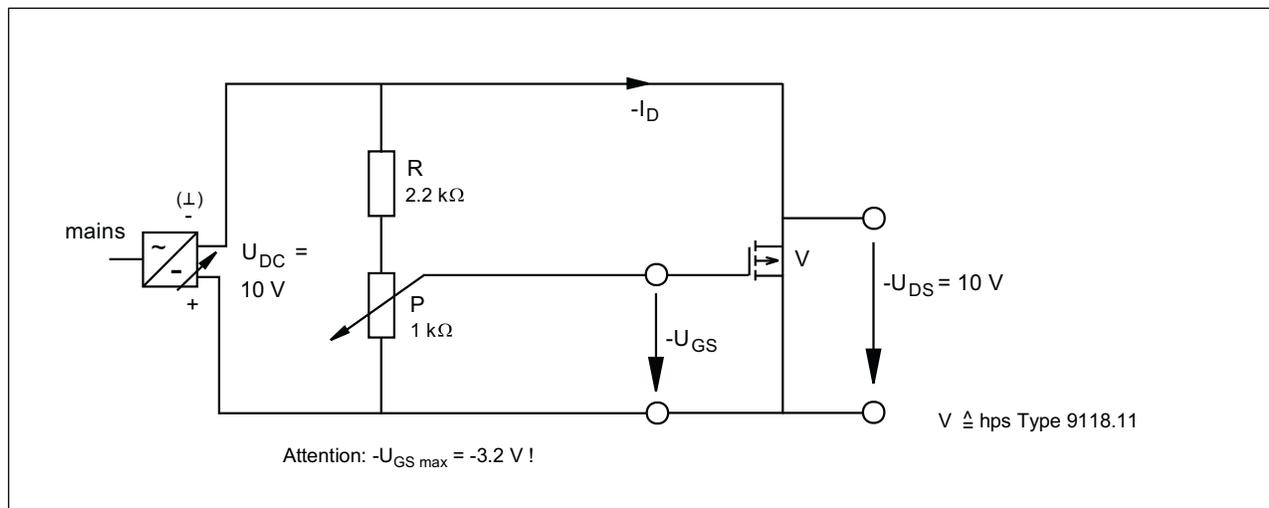

Fig. 6.1.2.1
- On the diagram (Fig. 6.1.2.2), plot a graph showing the dependence of the drain current  $-I_D$  on the gate/source voltage  $-U_{GS}$ . This gives the control characteristic of the MOSFET.